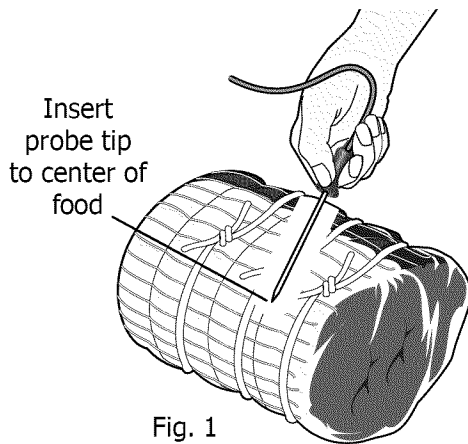

Fig. 1
- For bone-in ham or lamb, insert the probe into the center of lowest large muscle or joint. For dishes such as meat loaf or casseroles, insert the probe into center of food. To find center of the food visually measure using probe sensor as a guide (See Fig. 1). When cooking fish, insert meat probe just above the gill.